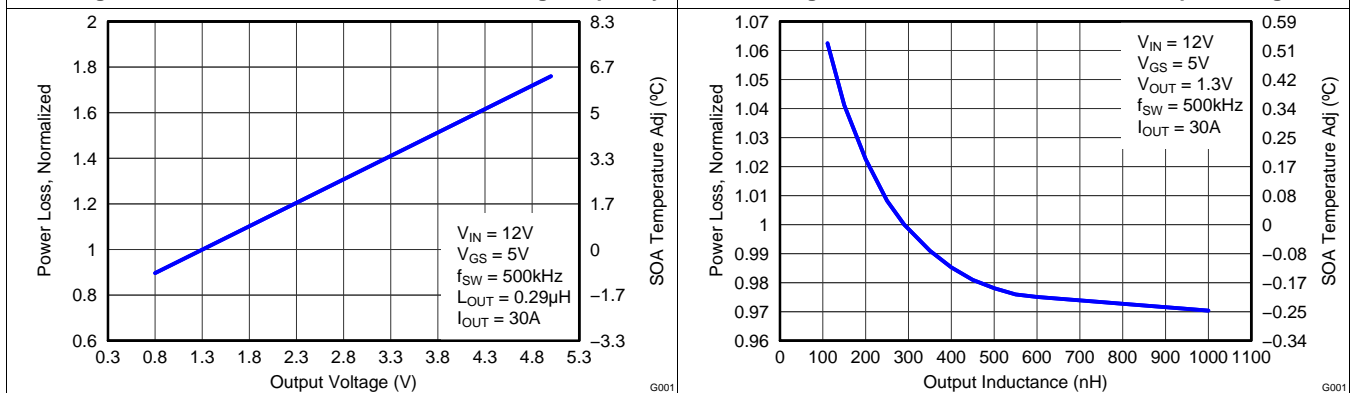

Figure 7. Normalized Power Loss vs Output Voltage
- Normalized Power Loss for output voltage  $\approx 0.94$  (Figure 7)
- SOA adjustment for output voltage  $\approx -0.5^\circ\text{C}$  (Figure 7)